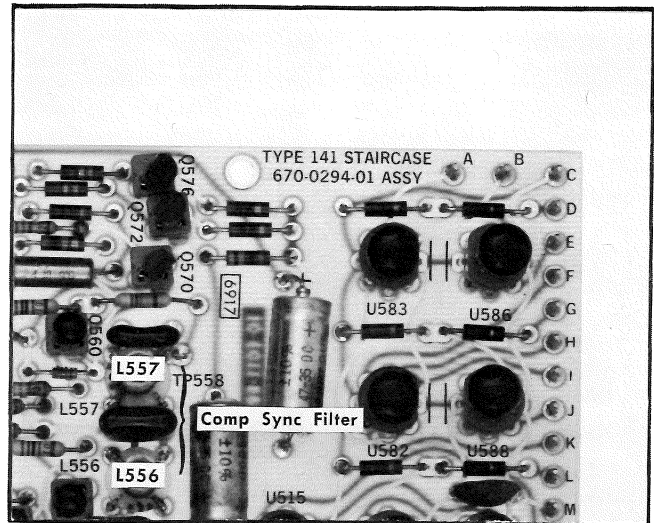

Fig. 5-37. Staircase board adjustment location.
d. ADJUST—Comp Sync Filter adjustments, L556 and L557, (see Fig. 5-37) for the best transient response of composite sync.